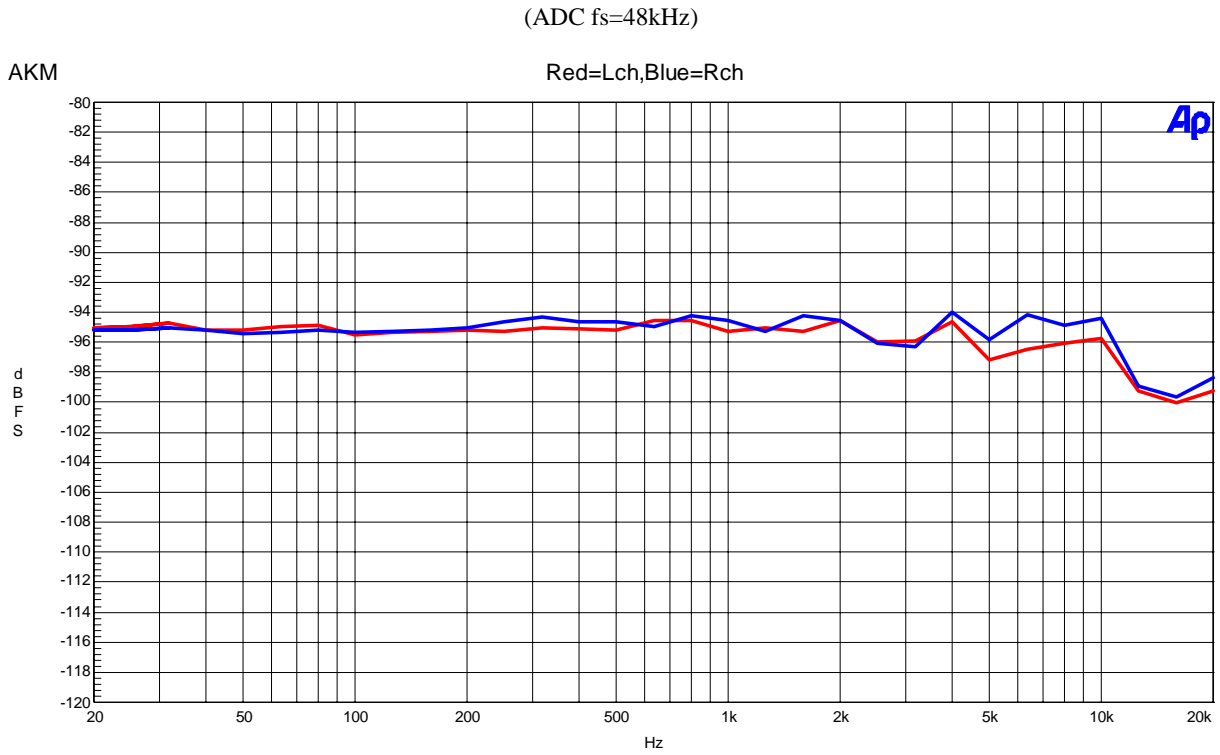

Figure 12. THD + N vs Input Frequency (Input Level=-0.5dBFS)
- Figure 12. Linearity (Input Frequency =1kHz)